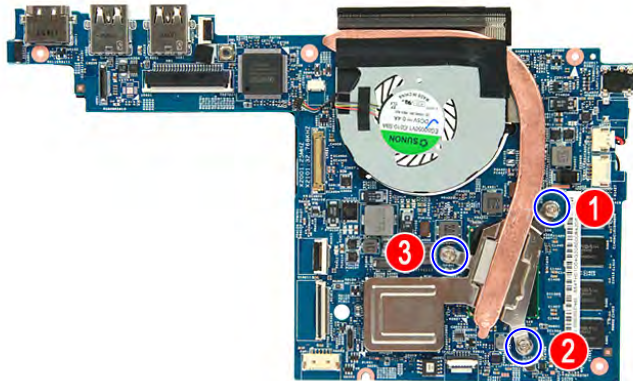

Figure 3-86. Thermal Module Screws
2. Secure the thermal module using the spring-loaded captive screws. Follow the screw sequence indicated on Figure 3-86.